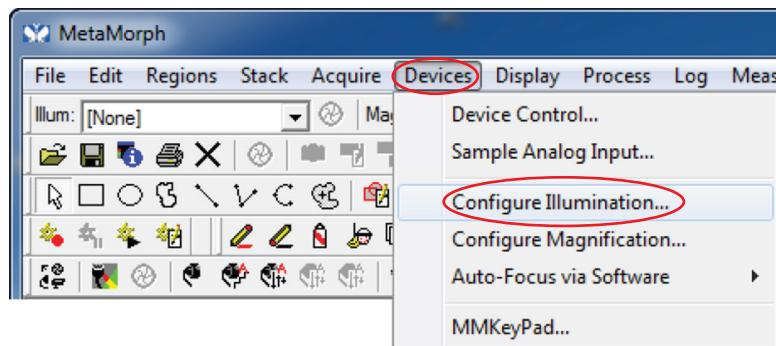

Figure VI-21. Configure Illumination Menu Option
3. From the Devices drop-down menu, select ‘Configure Illumination’ as shown in Figure VI-21.